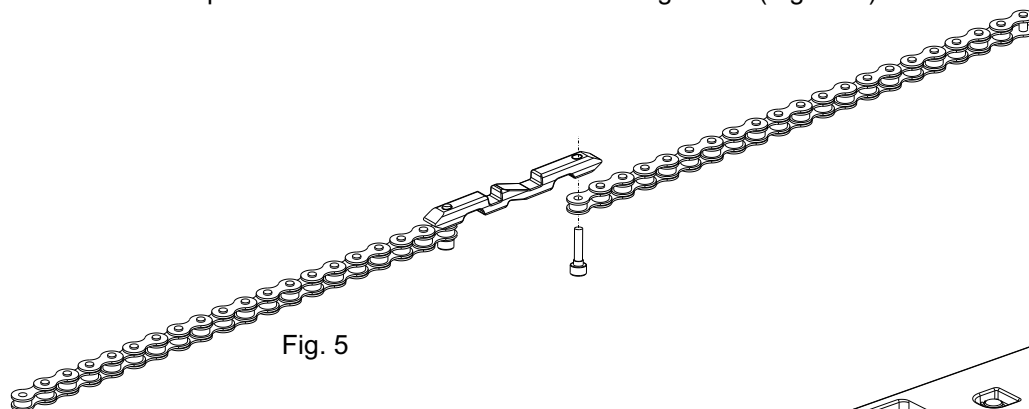

Fig. 5
- Connect the two ends of the chain using the connecting link and the two provided screws ( Fig. 5).